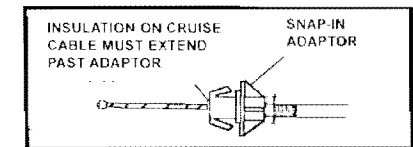

Figure 21
- After the threads have been formed, screw the SNAP-IN ADAPTOR onto the CRUISE CABLE. **Figure 21**